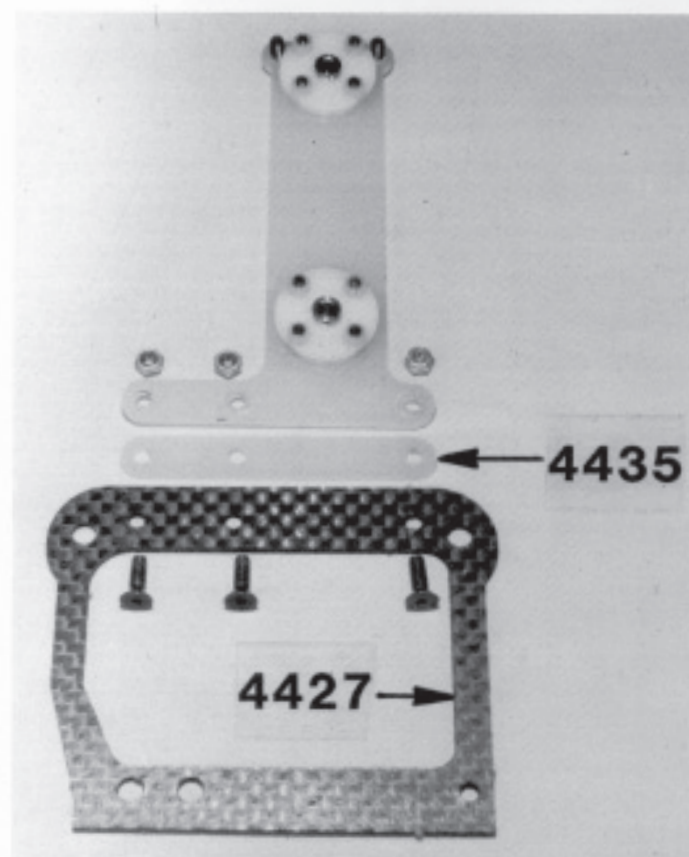

Fig. 17
□ Figs. 17 & 18 In bag #4 you will find the #4427 graphite lower rear brace and #4435 T-bar spacer. You will also find three #6292 4-40 x 3/8" FHSScrews and three #4449 small aluminum locknuts. Layout the lower rear brace as shown in Fig. 17 with the countersunk side down. Install the three #6292 screws through the bottom of the lower rear brace as shown. Line up the #4435 T-bar spacer with the screws and install over the screws and on top of the T-bar. Now slide the T-bar down over the screws and install and tighten the three #4449 small aluminum locknuts onto the screws. Your completed assembly will look like Fig. 18.